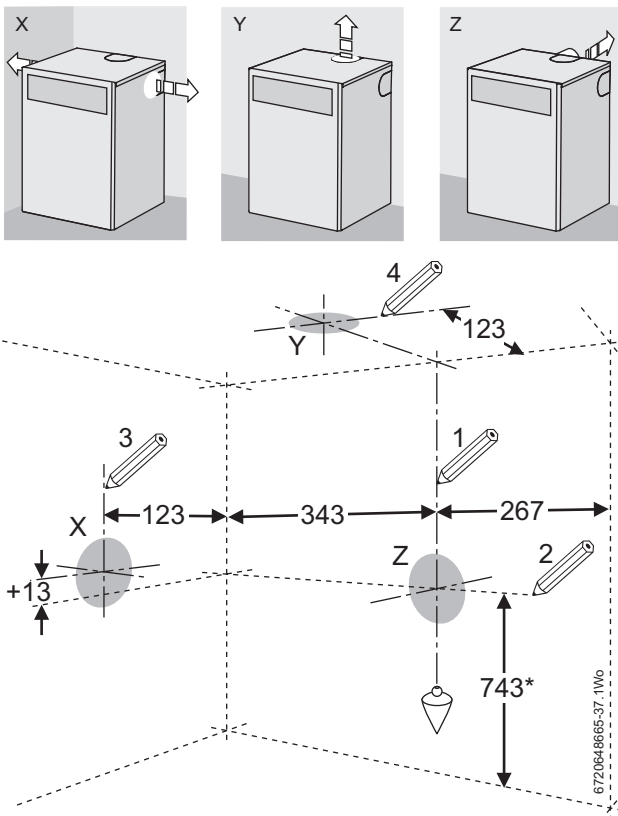

Fig. 22 Boiler flue outlet positions
- ▶ Follow the figure 22, page 23 to mark the centre of the flue (1 & 2) for rear opening, (2 & 3) for side opening or (1 & 4) for top opening. Measurements shown include the minimum service clearances.